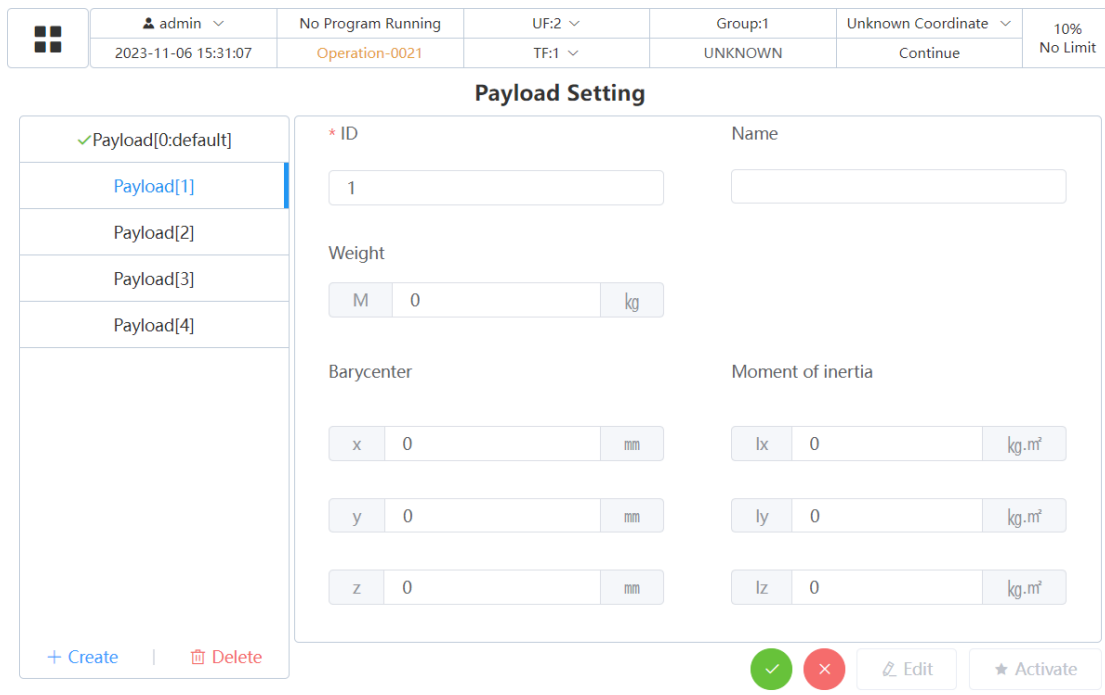

Fig. 2.39 Payload Parameter Interface
2. Click “New” and set a new payload. Click "Edit" to manually input payload data, as shown in Fig. 2.39.
Among others, M (kg) is the mass of the payload, X (mm), Y (mm) and Z (mm) are the barycenter positions of the payload relative to the flange center as shown in Fig. 2.39, and I_x , I_y and I_z are the rotational inertia of the payload relative to X , Y and Z coordinates. When the payload of the robot is taken as a mass point, the moment of inertia I_x , I_y and I_z are written as 0.